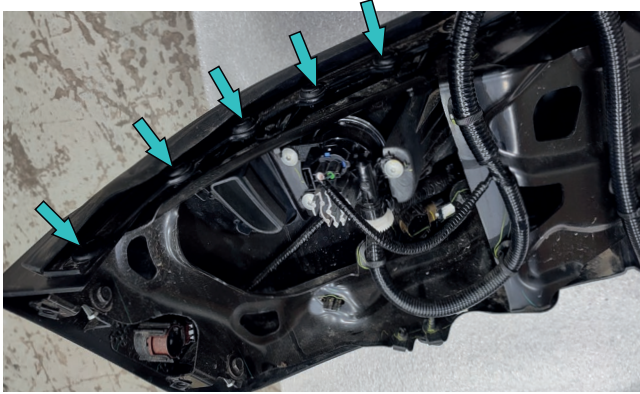

Fig.44
42. Unscrew and remove the gasket on both sides of the factory bumper (fig.44).